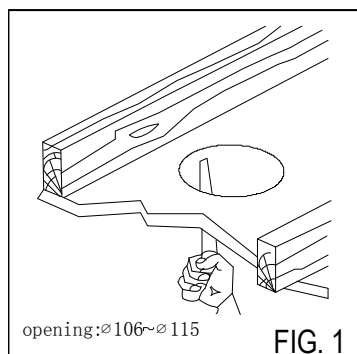

FIG. 1
1. Cut a diameter $\varnothing 106\sim 115$ mm hole in the ceiling. (Fig.1)